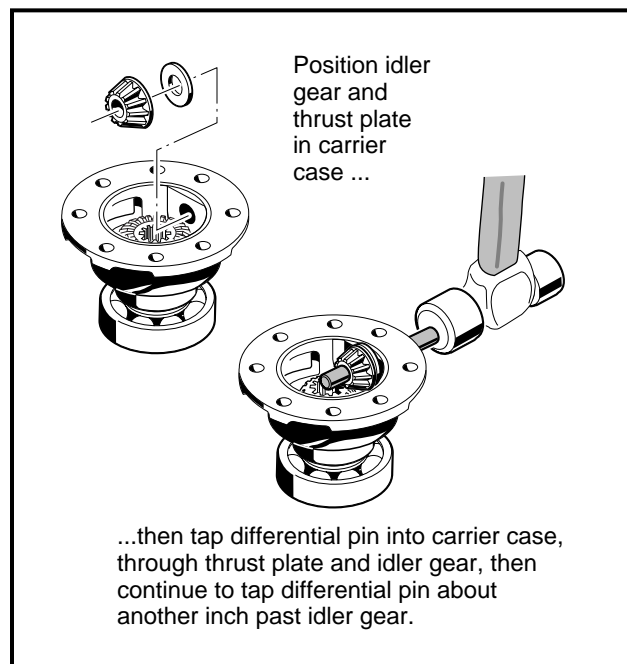

Figure 16-62 Idler Gear
3. Start the differential pin (88) into the carrier case by lightly tapping it in with a plastic or rubber hammer. Before the pin enters the inside of the carrier case, position the thrust plate (85) and idler gear (89) (**Figure 16-5, Page 16-4**) in the case and then continue tapping the pin through the thrust plate and idler gear as shown (**Figure 16-62, Page 16-26**).